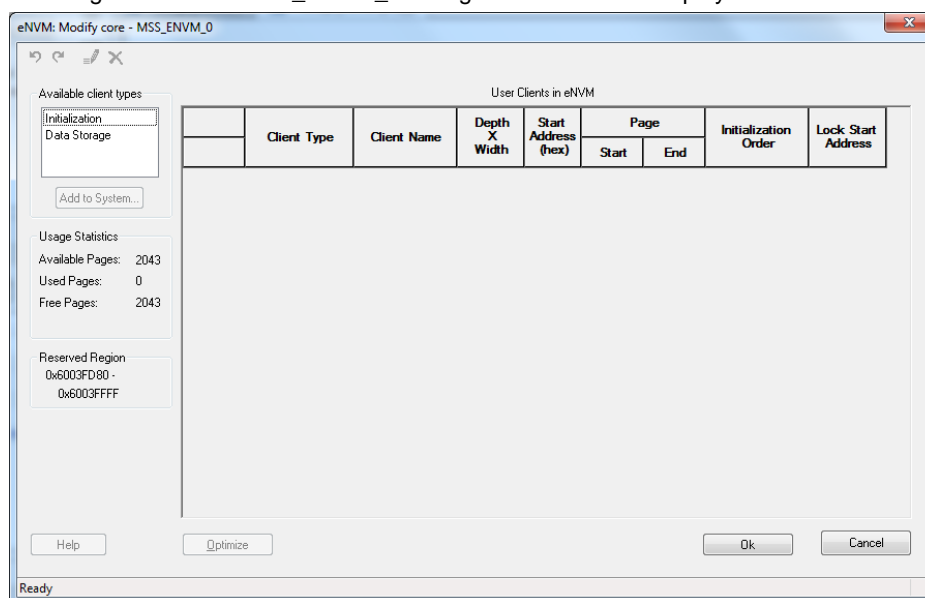

Figure 7 · MSS_ENV_0 Configurator
3. Double click on the eNVM module available in the SmartDesign MSS Configurator to add eNVM data storage client. The MSS_ENV_0 configurator window is displayed as shown in the Figure 7 · .